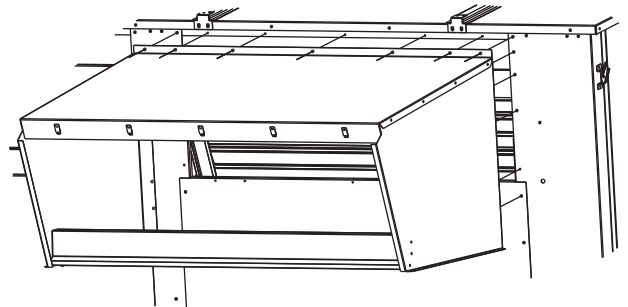

Fig. 32 — Removing Screws from the Outdoor Air Opening of Unit
8. Remove the screws on each end and along top of the outdoor air opening of unit. Set hood assembly in place and attach to unit using gasketed screws. See Fig. 32.